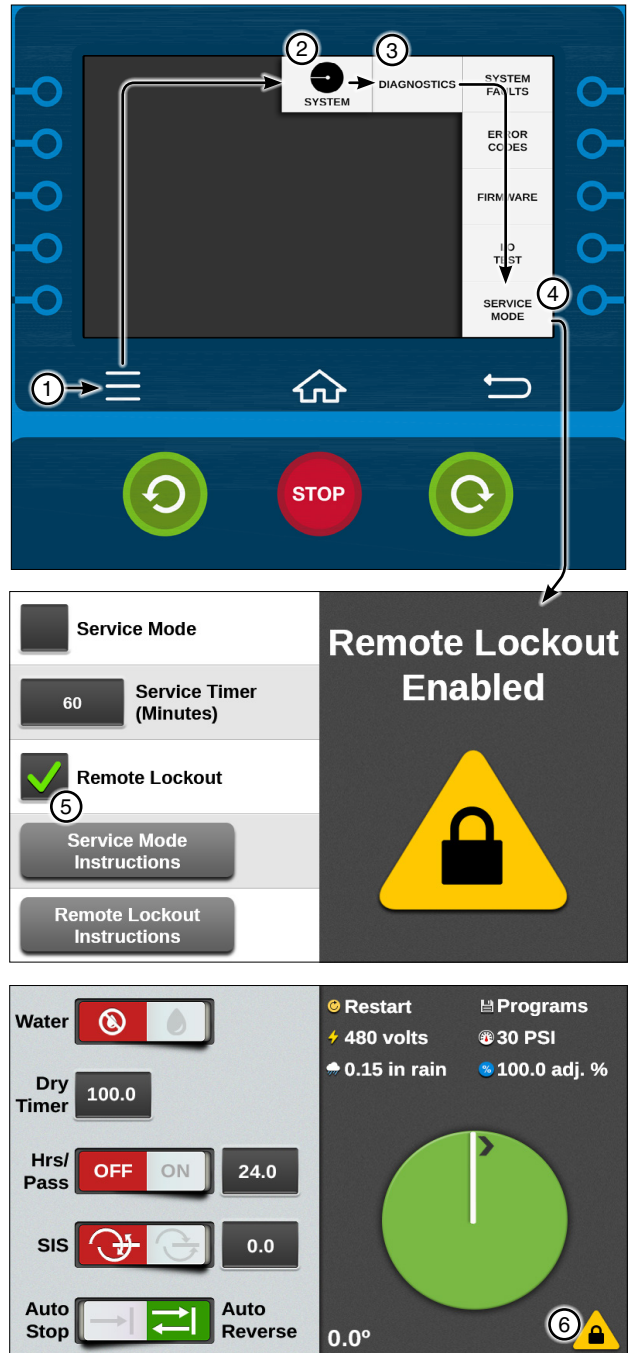

Figure 61-1 1. Menu 2. System 3. Diagnostics 4. Service Mode 5. Remote Lockout Checkbox 6. Remote Lockout Icon
1. Push **Menu**, **System**, **Diagnostics**, **Service**, and **Service Mode** to display the Service Mode screen. Refer to Figure 61-1.